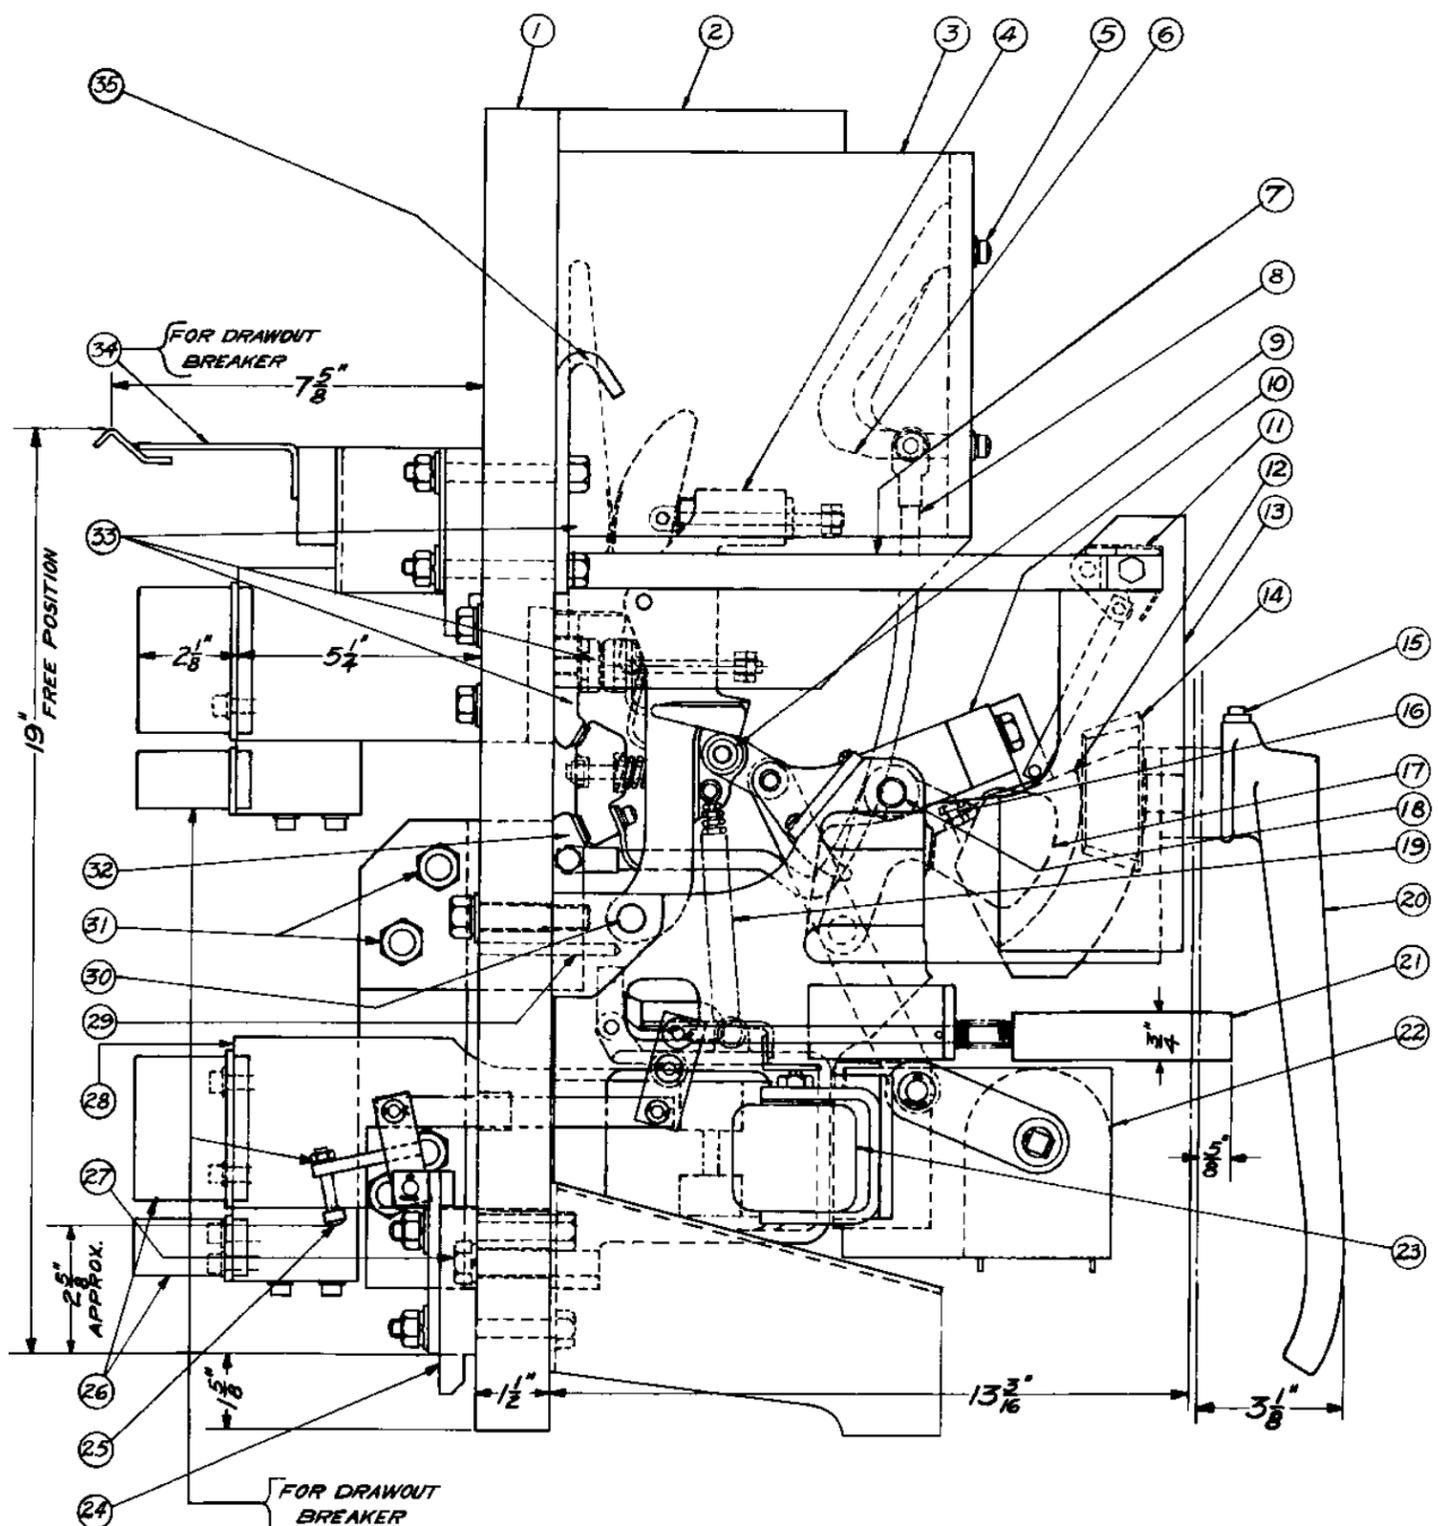

Fig. 2 Manually Operated (Side View)
- Fig. 2—Manually Operated Breaker (*Side View*)